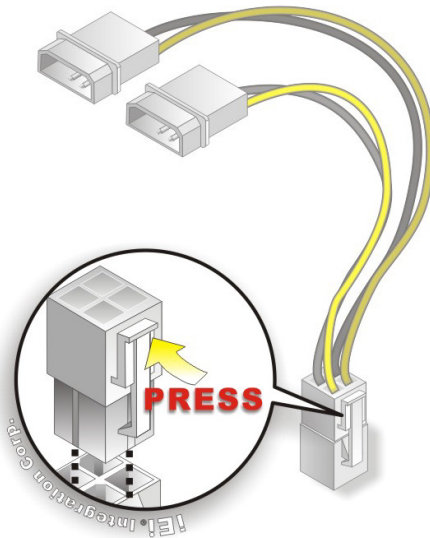

Figure 4-19: Power Cable to Motherboard Connection
**Step 2: Connect the Power Cable to the Motherboard.** Connect the 4-pin (2x2) Molex type power cable connector to the AT power connector on the motherboard. See Figure 4-19.